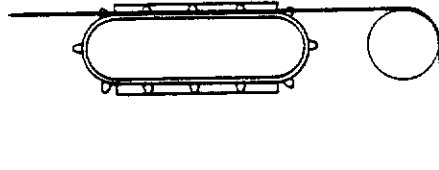

Figure 2-17. Side View of Paper Path, Bottom Paper Feed.
8. Close the lid. The paper is now loaded. If you had any difficulty following the procedure, figure 2-17 will help. It shows a side view of the overall paper path for rear paper feed.